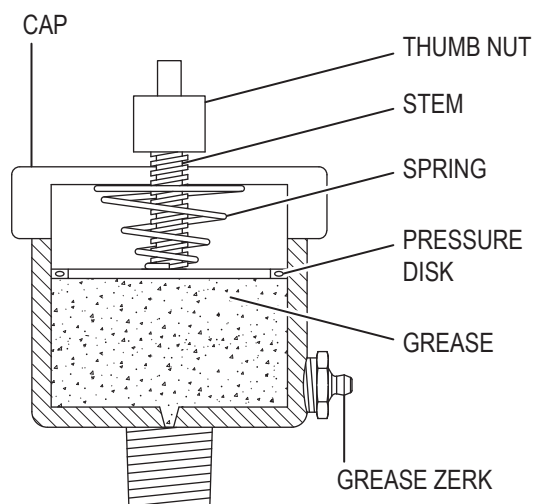

Figure 3 – Automatic Pressure Lubricator Components
B. Check automatic pressure lubricator at pump. If the red indicator is fully raised, the automatic pressure lubricator contains lubricant. If not, lubricant must be replaced by the following procedure (See Figure 3):